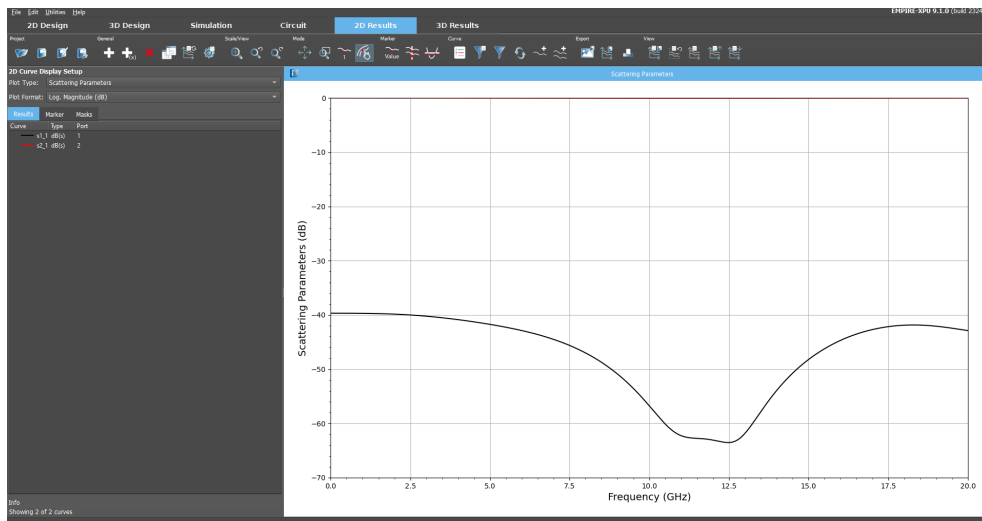

Figure 3.4.: EMPIRE XPU™ 2D Result Plot
- Check: If the S-Parameter results are plotted as in Figure 3.4 the simulation was successful and the plot library is working